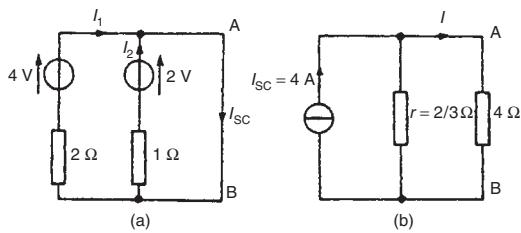

Figure 13.57
- (i) The  $4\Omega$  branch is short-circuited as shown in Fig. 13.57(a)
- (ii) From Fig. 13.57(a),